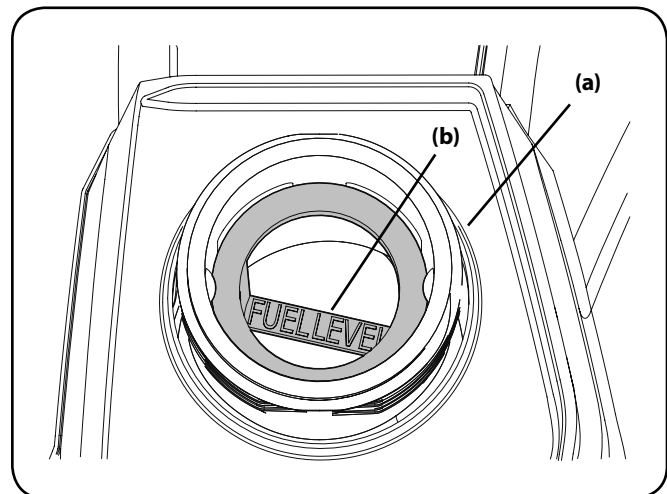

Figure 3-3
2. Fill tank (a) to full as indicated by the fuel level indicator (b) installed inside of the fuel tank. Do not over-fill to allow space for fuel expansion. See Figure 3-3.